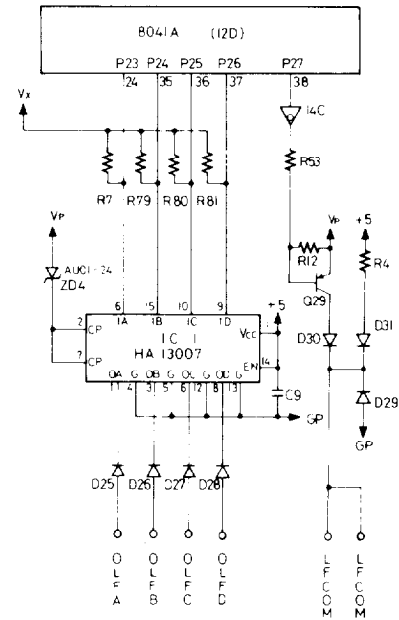

Fig. 2.34 LF motor drive circuit
2.4.5 LF motor control circuit (Fig. 2.34)